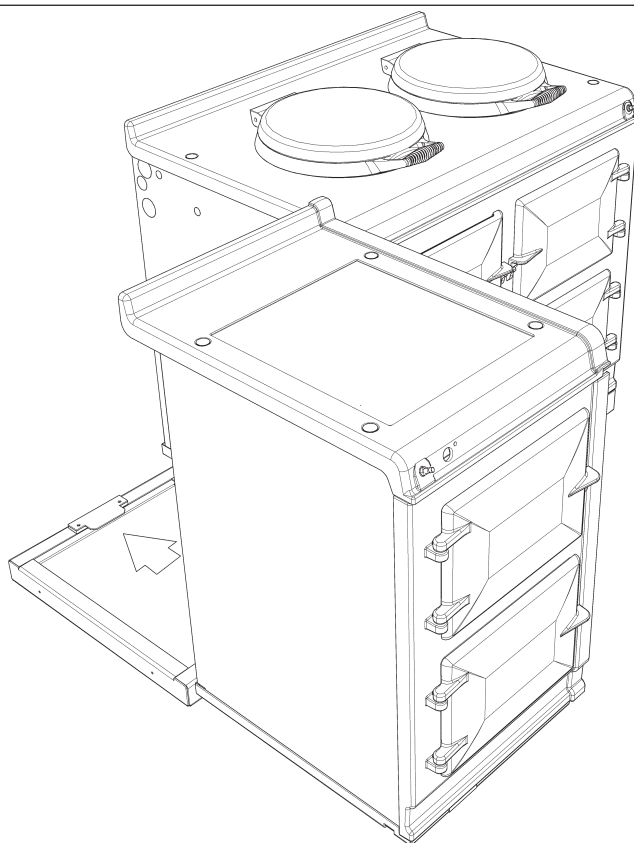

Fig. 12
6. Slide hotcupboard onto plinth until rear tongue bracket engages fully into rear of base slot, (See Fig. 12). Ensure the appliance is aligned squarely with the plinth then proceed to engage the front tongue bracket into the slot on the underside of the base plate. Once satisfied that the front tongue bracket is engaged fully lock it into place by tightening the two M6 screws fully. Ensure that the electrical cable does not come into contact with oven vent pipe from the AGA DC3.